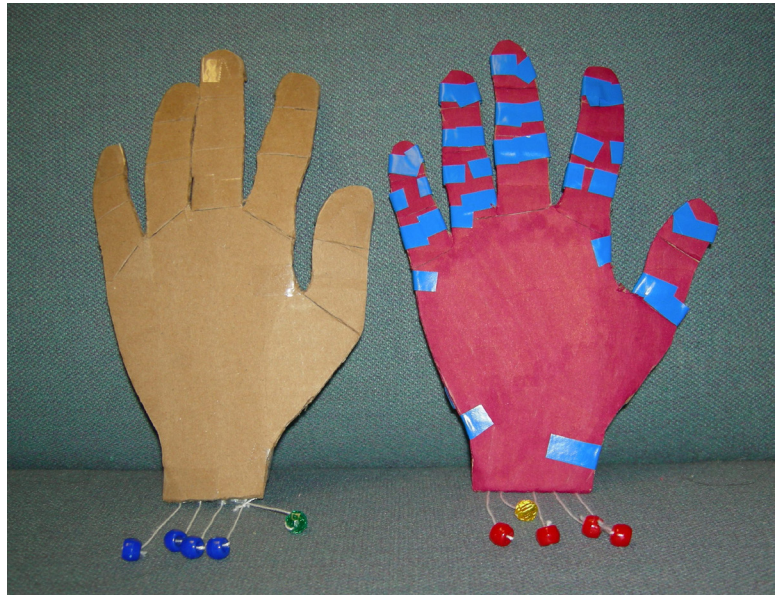

**Figure 5.** Bead tied onto the end of each string about 5 cm from the wrist.
12. Tie a bead onto the end of each string about 5 cm from the wrist. Each bead serves as a handle for flexing a finger (see Figure 5).